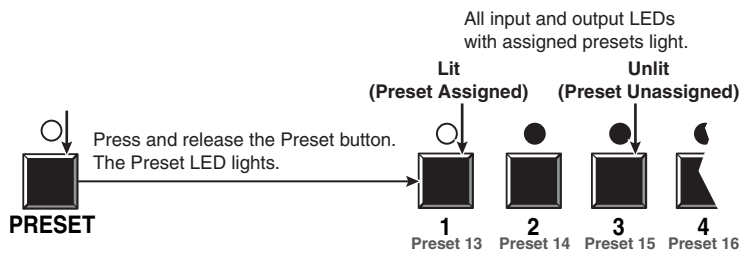

Figure 3-39 — Enter Recall Preset mode
- Press and release the Preset button (figure 3-39).